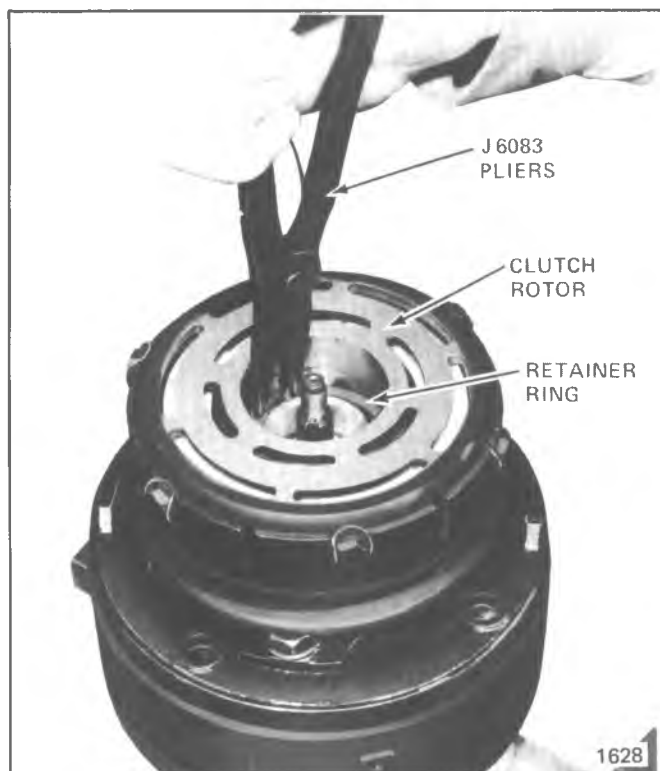

Fig. 1D-81 Removing R-4 Rotor & Bearing Asm. Retainer Ring
2. Remove Rotor and Bearing assembly retaining ring, using Snap Ring Pliers J 6083 (#24), Fig. 1D-81. Mark the location of the clutch coil terminals.
If the Clutch Rotor and/or Rotor Bearing only are to be replaced, bend the lockwashers away from the pulley rim mounting screws (see Fig. 1D-79), and remove the six mounting screws and special lock washers before proceeding with Step 3. Discard the lock washers.
3. Install Rotor and Bearing Puller J 25031-2 down into the rotor until the Puller arms engage the recessed edge of the rotor hub. Hold the Puller and arms in place and tighten the Puller screw against the Puller Guide to remove the Clutch Rotor and Bearing assembly (Fig. 1D-82 and 1D-83), being careful not to drop the Puller Guide.